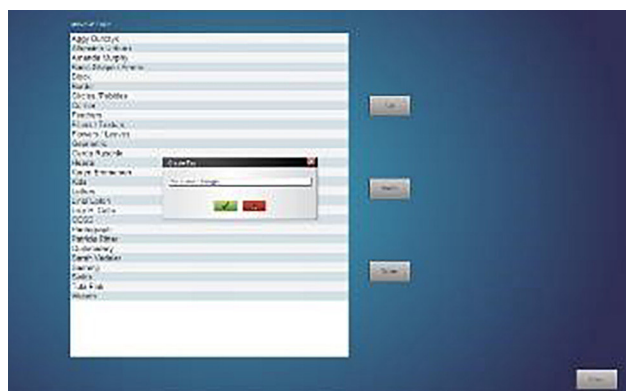

Fig. 4
3. Enter the new tag name in the dialog box (Fig. 4). When you're finished, confirm with the green check mark.